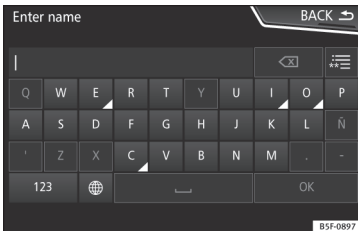

Fig. 246 Search window.
- Enter the name of the contact you are looking for in the window »» Fig. 246. While the characters are being entered, a contact is displayed in the input field.